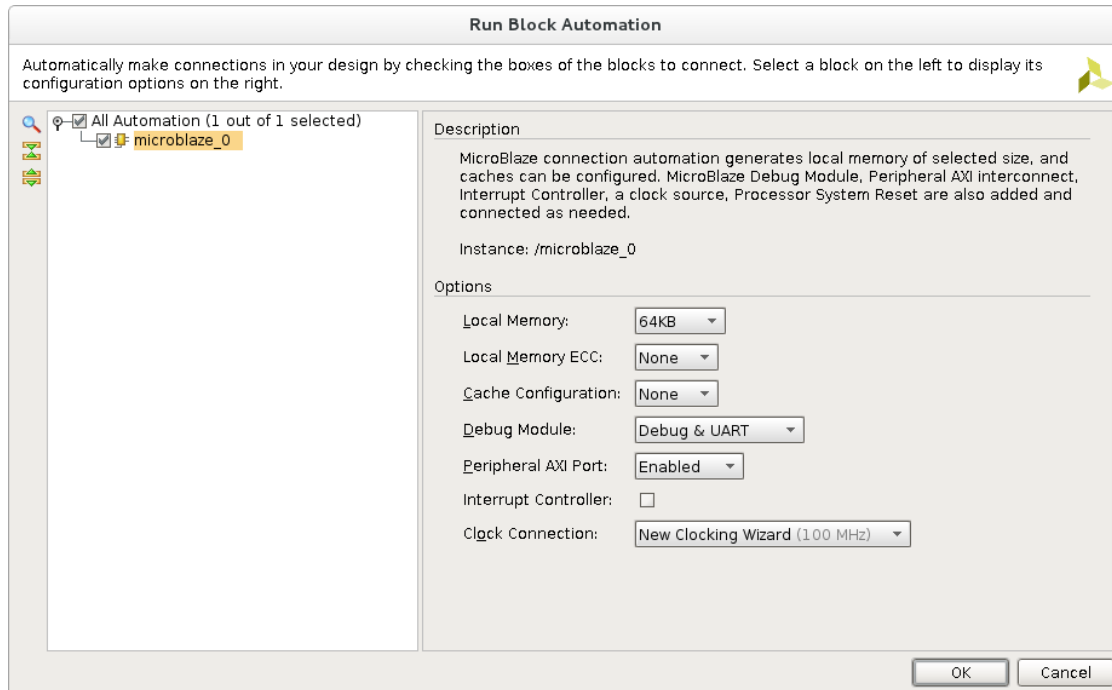

Figure 8: Run Block Automation
- (d) The Block Design Diagram opened (tab called Diagram) is empty. Right click within the diagram tab and select 'Add IP'. Search 'MicroBlaze' and double click on 'MicroBlaze' to add it to our design. Right click and select 'Run Block Automation'. Select the following configuration for the MicroBlaze processor and click 'OK'. (Figure 8)